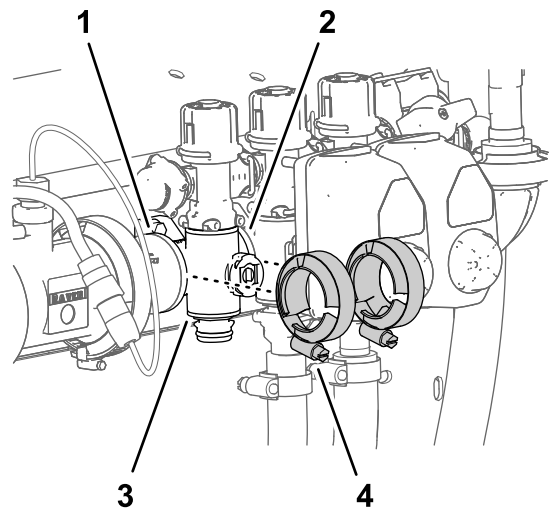

Figure 125
4. Loosely assemble the flange clamps that you removed in Removing the Section-Manifold Valve \(page 82\) to the flanges of the section-valve manifold and the flanges of the other section-valve (s) and/or coupling adapter (Figure 125).
7. Tighten the 2 flange clamps by hand (Figure 125).